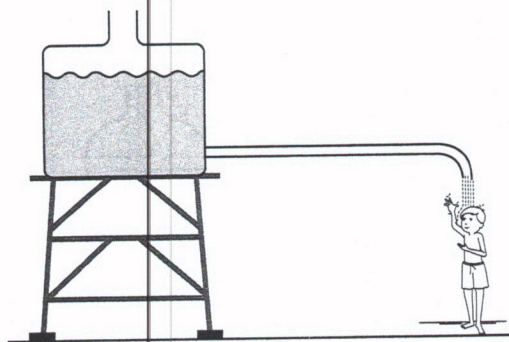

Figure 1.53
29. At a vacation camp in the woods, the owner collects rainwater for washing. She plans to construct a cold-water shower by mounting the collection tank (i.e., 150-gallon, 36-inch diameter) on a platform and using gravity to provide the flow through piping attached to a hole in the side near the bottom of the tank (Figure 1.53). She easily can obtain PEX tubing (i.e., cross-linked polyethylene) in nominal 1/2-inch and 1-inch sizes. What is the flow rate at the pipe exit at the beginning of the shower if she connected 10 feet of the 1/2-inch PEX (ID = 0.632 inches) to a full tank of water? What is the flow rate if the tank were only half full? Do not neglect friction.